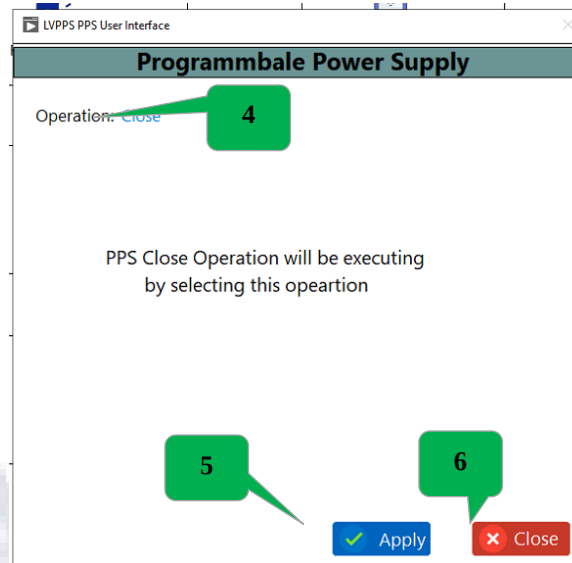

Figure 69: LV PPS Close
Click the PPS button and Selection list mention LVPPS, HVPPS (Based the socket selection HVPPS) the Run Cleanup and tick the Don't show again batch execution then click the OK. screen below the user screen will appear Refer the Fig 69.
- 1) Click the Diagnostic Screen Button and Refer Fig 69.